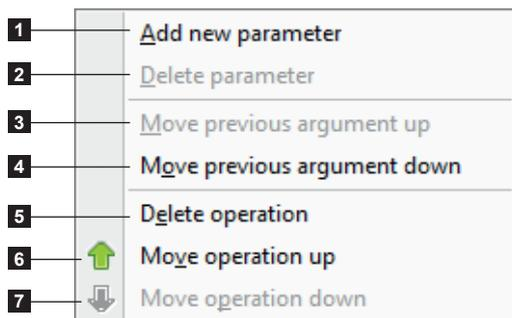

Figure 81 Formula properties
- ▶ Select the operation type in the list (1)
- ▶ Double-click on the selected operation (2) to add it to the list (3).
- ▶ Fill in the operands (4), either by entering a fixed data in the editable field or by selecting a datasource (5).
- ▷ Figure 81
- Intermediate result (6) and final result (7) of the operations are displayed.
- ▶ Validate with the OK button (8).